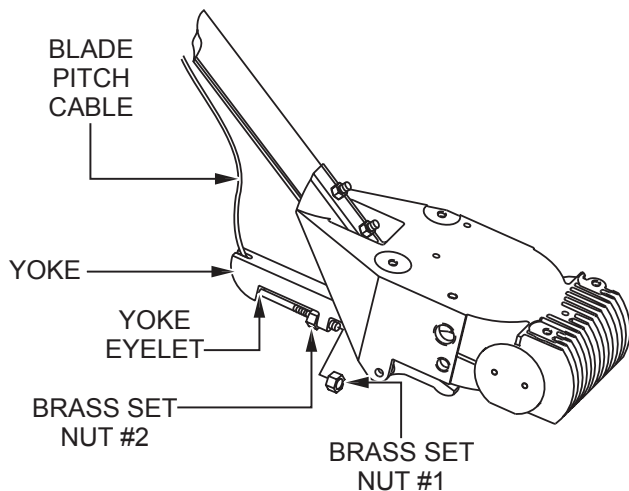

Figure 15. Cable Yoke Attachment
- Insert the blade pitch cable end through the yoke eyelet (Figure 15). Tighten brass set nut #1 by hand to remove all slack from the cable.